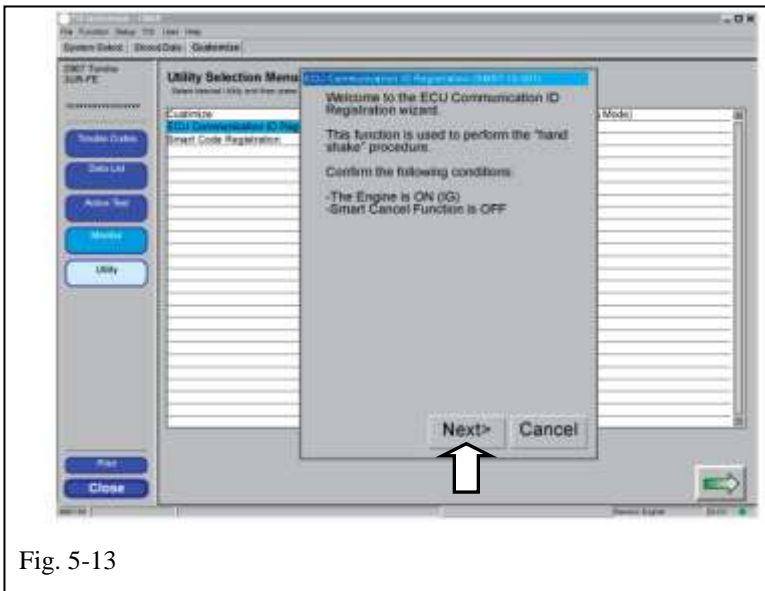

Fig. 5-13
- (y) Confirm that the Engine is ON (IG), and that the Smart Cancel Function is OFF. (Fig. 5-13)
- (z) Click "Next>" to continue. (Fig. 5-13)